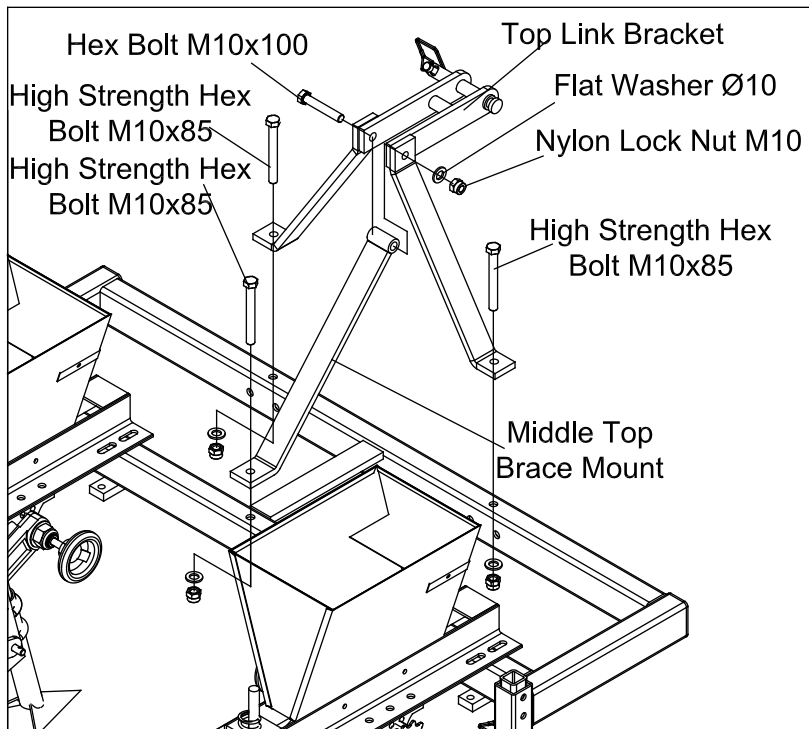

Figure 5
STEP 3: Top Link Bracket and Middle Top Brace Assembly. Connect topleink bracket to the frame assembly using M10x85 high strenght hex bolt, M10 lock nut, Ø10 flat washer and tighten, then connect middle top brace to the top link bracket and frame using M10x100 hex bolt, M10x85 high strength hex bolt, M10 lock nut, Ø10 flat washer and tighten. (Shown in figure 5)